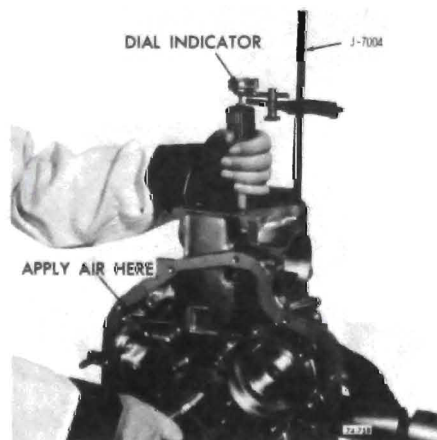

Figure 76-758
14. Check rear end play as follows: See Figure 76-758.
a. Install J-7004 into an extension housing attaching bolt hole. See Figure 76-758.